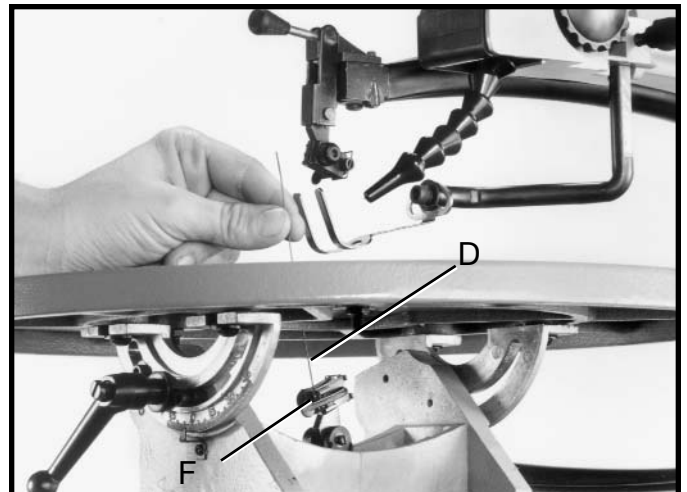

Fig. 26
4. Push lower blade holder clamping lever (F) Fig. 26, to the rear. This will automatically release blade (D) from lower chuck.